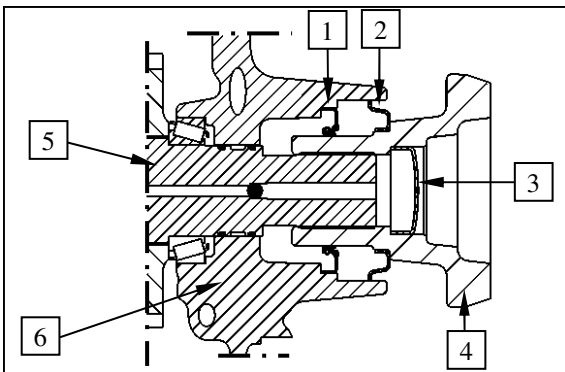

Figure 2
Use driver tool (S) to fit the shaft seal 60x90x8 (1) until contact position, with the sealing lip showing towards the oil sump (see Figure 2).
Press closing cover (3) into the flange (4) until contact is obtained (see Figure 2).
Press screen sheet (2) onto the flange (4) until contact is obtained (see Figure 2).